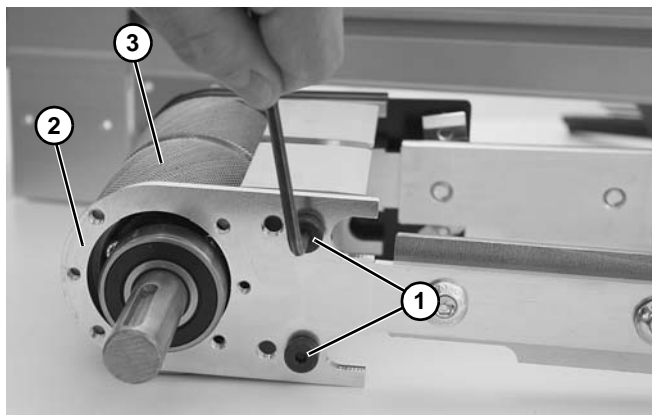

Figure 88
4. Remove shoulder screws (**Figure 88, item 1**) to remove backing plate (**Figure 88, item 2**).
5. Slide drive pulley assembly out of tail assembly (**Figure 88, item 3**).